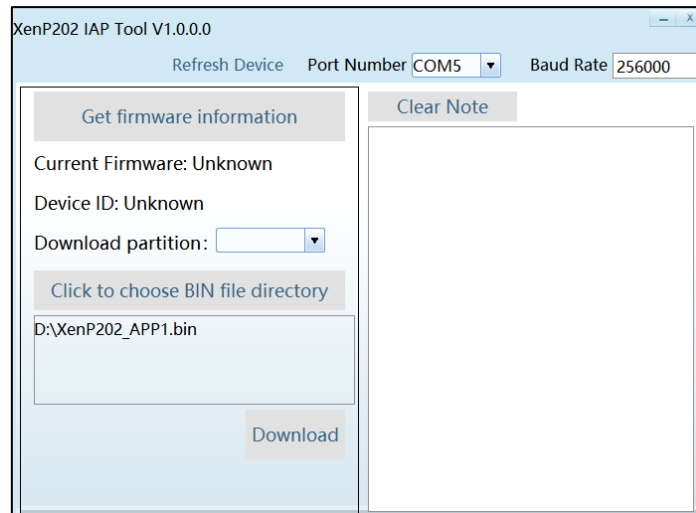

Figure 4-14 XenP202 IAP Tool
Step 3: On the GUI of the IAP Tool, click the **Refresh Device** button, select the COM number of XenP202TE module, set the baud rate to 256000, as shown in Figure 4-14;